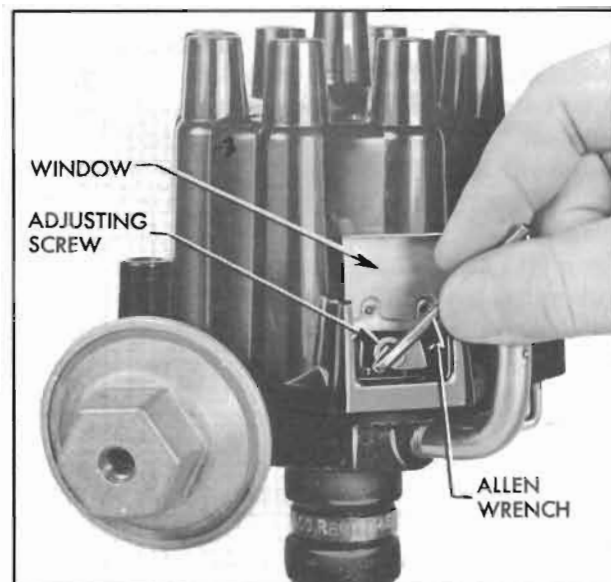

Figure 10-42—Adjusting Contact Point Dwell Angle
3. Start engine. Lift adjustment window and insert $\frac{1}{8}$ " Allen wrench in adjusting screw. See Figure 10-42. Set dwell angle at 30 degrees.